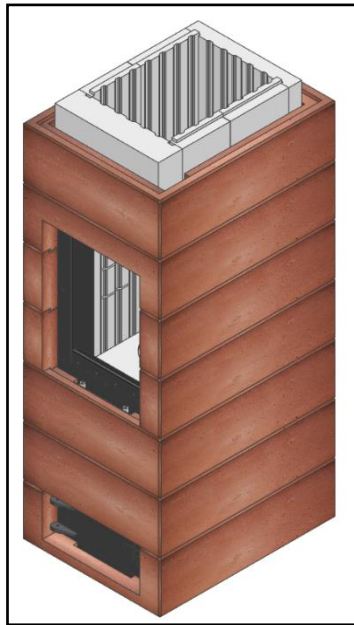
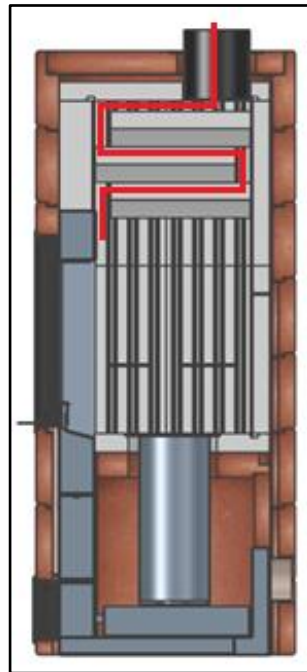

Fig.20
Fig.21
7. In the next step, add the front internal element (Fig. 20) and install 3 arc deflectors according to the diagram (maintaining their proper arrangement, ensuring the visible exhaust gas flow), inserting steel mounting rods into the prepared holes (Fig. 21). Then install the decking (internal white ceiling element) (Fig. 22). Then install the last external element no. 8 (Fig. 23).